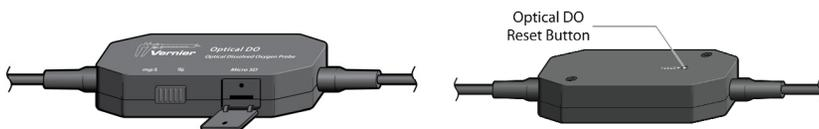

Figure 2 Location of microSD card and reset button
- b. Remove the screw in the microSD card cover and remove the microSD card (see Figure 2).
- e. Use a small paper clip to press down the reset button for three seconds. The reset button is located on the bottom of the box containing the microSD card (see Figure 2).